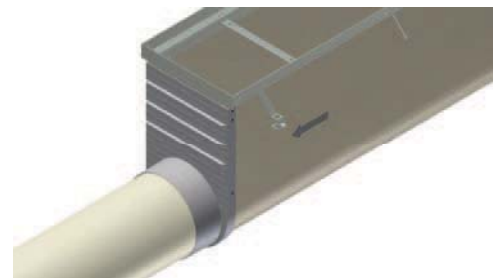

Figure 5.6
- Remove excess sealant and place pipe into end cap. See Fig. 5.6